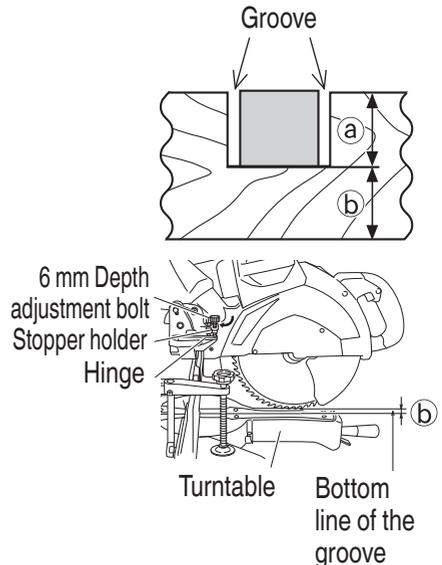

Fig. 29
Grooves in the workpiece can be cut by adjusting the 6 mm depth adjustment bolt (Fig. 29).
- (2) Adjust to the desired cutting depth by setting the distance between the saw blade and the surface of the base (Fig. 29).